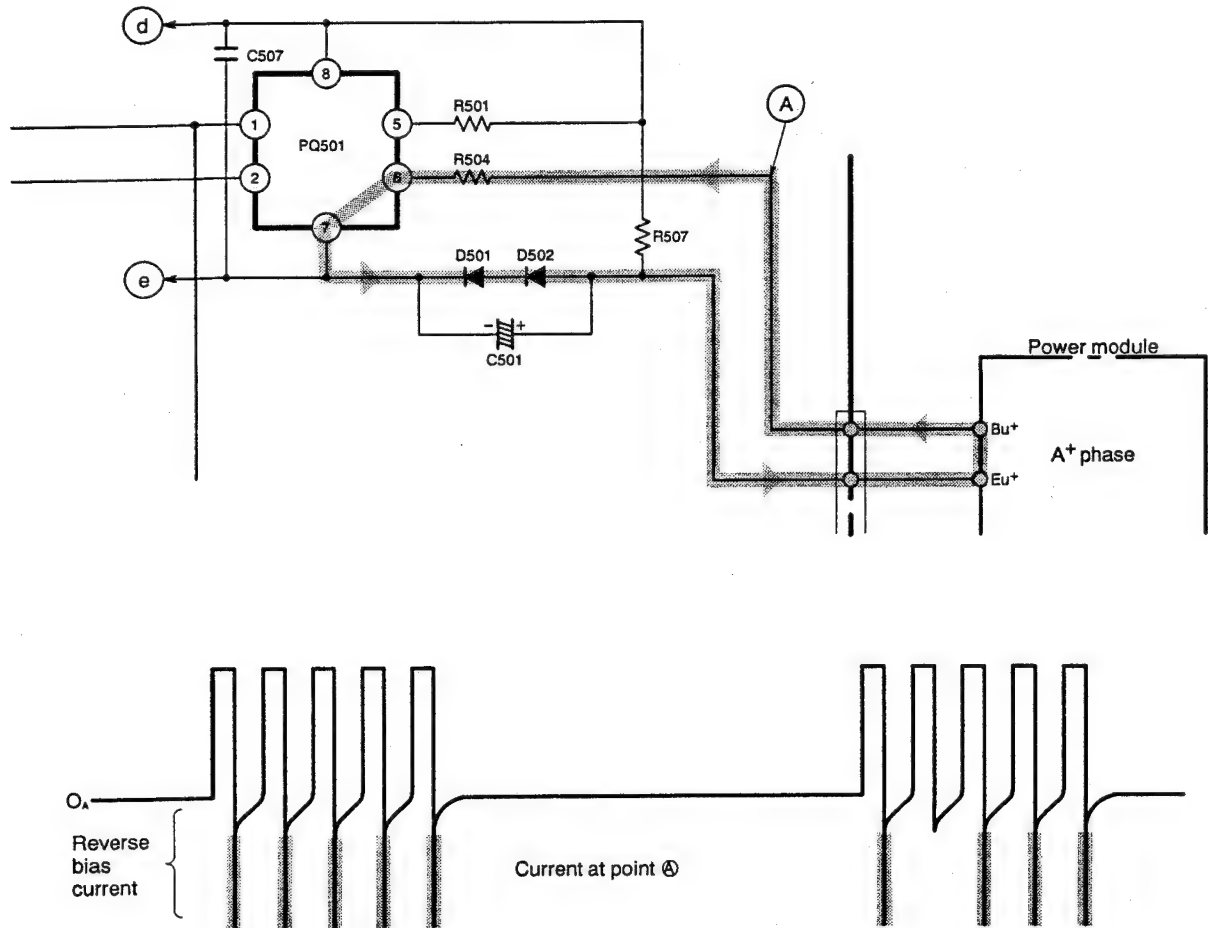

Fig. 7-3 Waveform of Transistor Base Current (Reverse Current at Point A)
- When pin ③⑧ of HIC-1 then goes "Hi" → "Lo", a photocoupler between PQ501 pins ① and ② turns off and the reverse bias current flows to C501 → power module's Eu+ terminals → Bu+ terminals → R504 → PQ501 to cut off the upper arm transistors. (Fig. 7-3)